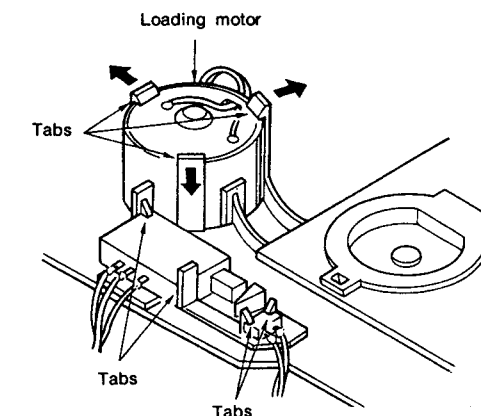

Fig. 5
**(5) Removal of the loading motor and switches (Fig. 5)**